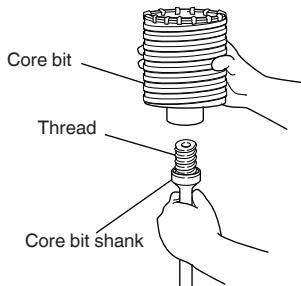

Fig. 19
- Mount the core bit to the core bit shank (Fig. 19). Lubricate the thread of the core bit shank to facilitate disassembly.